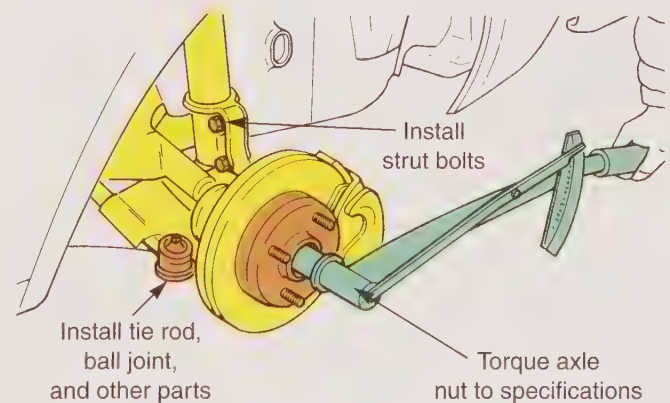

Figure 15-38. After the CV axle is installed, install the steering knuckle attachments and torque the axle nut to the specifications. (Chrysler)
4. Reinstall the front wheel bearing, the adjusting nut, and related washers or other parts. Torque the adjusting nut to the proper specifications, **Figure 15-38**. After adjusting the nut to get the proper preload, stake the nut to the stub shaft or install a new cotter pin to keep the nut from backing off. See **Figure 15-39**.